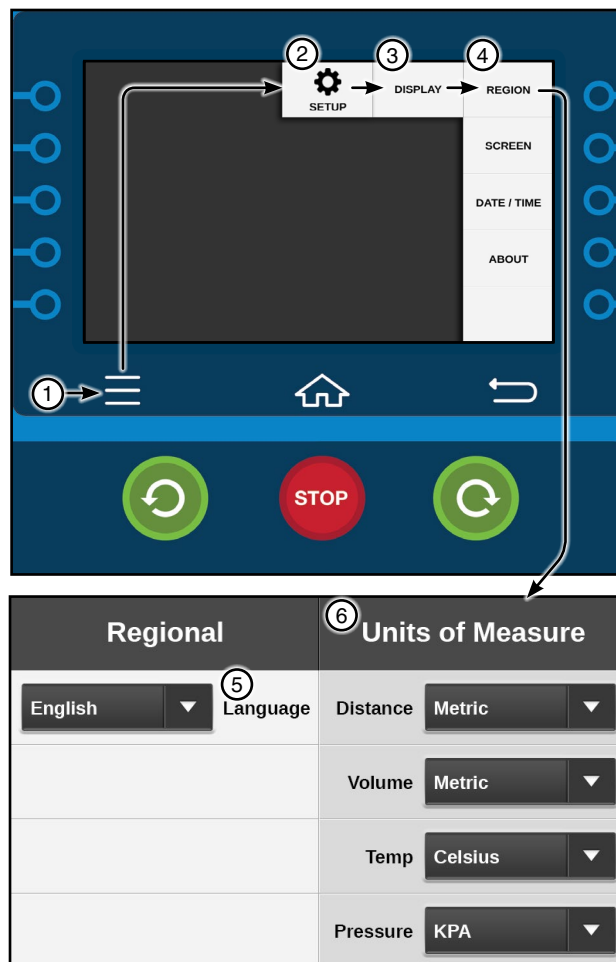

Figure 31-1 1. Menu
1. On the Region screen set the Language, Numeric Format and Units of Measure for Distance, Volume, Temperature and Pressure. See Figure 31-1.